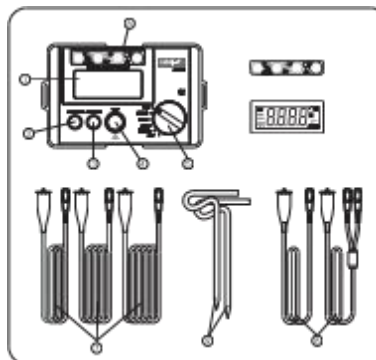

Figure 1
4. Tester Structure&Accessories (Figure 1)